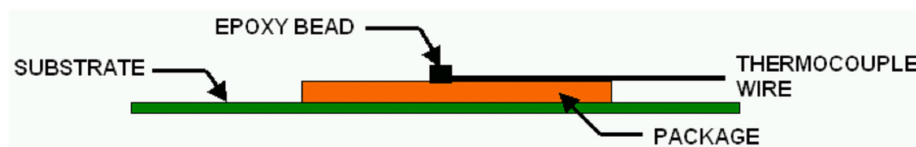

Figure 90. Technique for Measuring Tcase with a 0° Angle Attachment
- Attach the thermocouple at a 0° angle if there is no interference with the thermocouple attach location or leads (Figure 90). This is the preferred method and is recommended for use with non-enhanced packages.